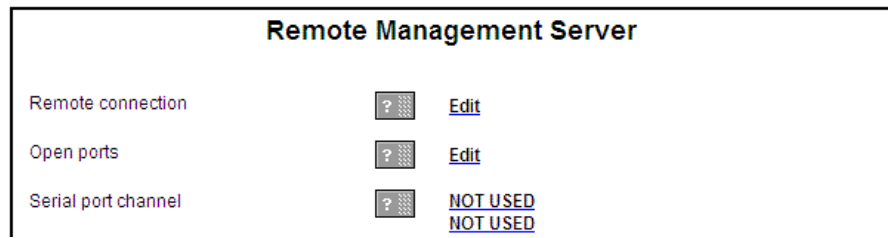

Figure 9. Main page of the Remote Management Server.
- 2 Click "Remote Management" to open the "Remote Management Server" window, see figure 9 below.
- 5 In this example, the Central Unit is connected to the ESS/Unite CM. Select the first "NOT USED" serial port channel, see figure 9. The communication to the Central Unit can be set up as in figure 12.
- 2 Click "Remote Management" to open the "Remote Management Server" window, see figure 9 on page 12.
- 5 In this example, the communication is linked further to System 9d via an IMS2/Unite CM that is connected to the ESS/Unite CM. Select the first "NOT USED" serial port channel, see figure 9 on page 12. The communication to the IMS2/Unite CM can be set up as in figure 14.
- 4 In this example, the communication is linked further to the teleCARE M system via an ISC that is connected to the ESS/Unite CM. Select the first "NOT USED" serial port channel, see figure 9 on page 12. The communication to the ISC can be set up as figure 16.